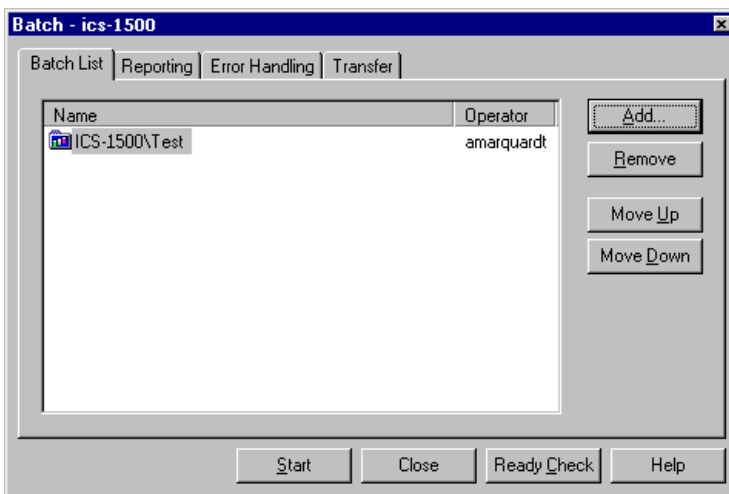

Figure 3-13. Batch Dialog Box with an Example Sequence Added to the Batch List
- Click the **Add** button on the **Batch List** tab and add the sequence you created in Step 2. See Figure 3-13 for an example.